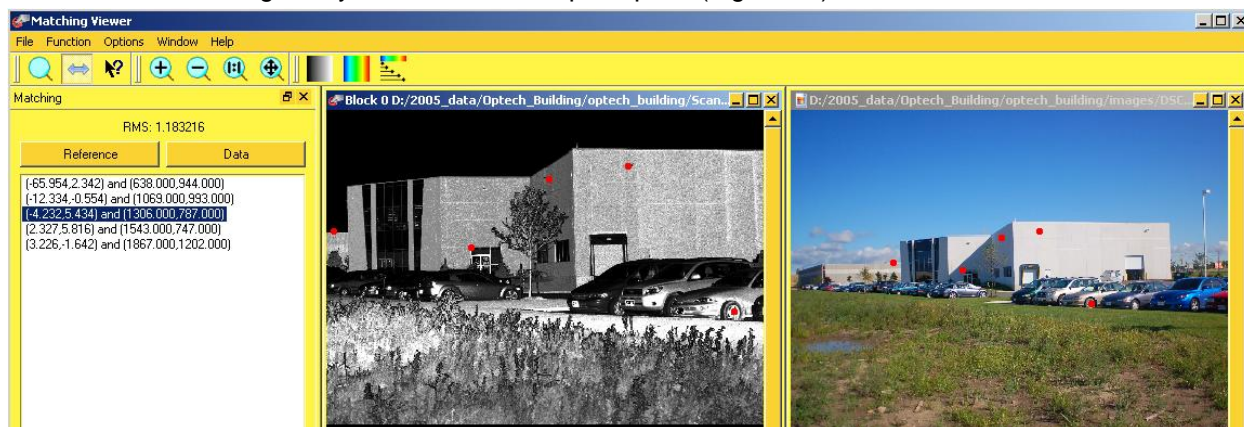

Figure 15: Multiple point pairs selected
4. Continue selecting until you have at least 5 point pairs (Figure 15).